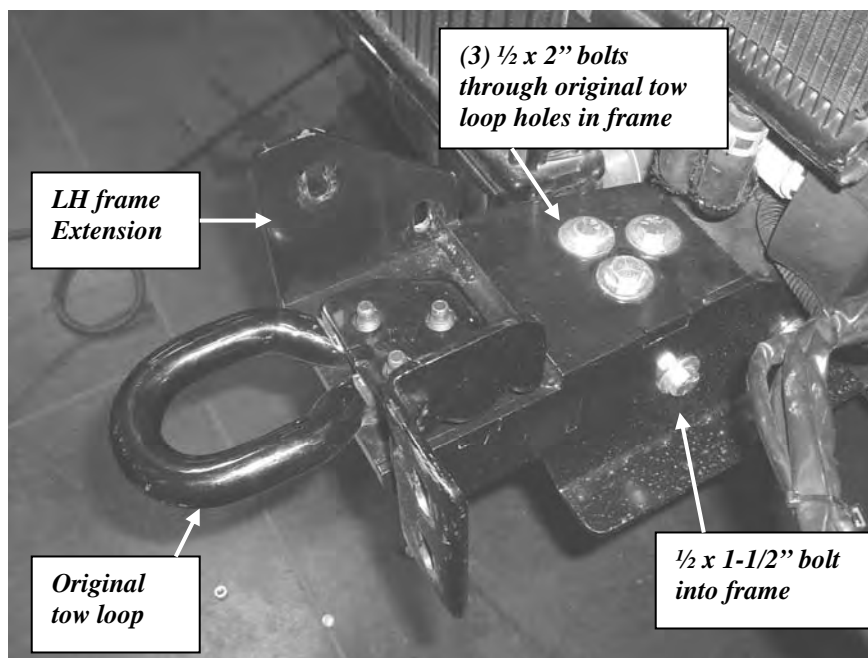

Figure 16 LH Frame Extension bolted in place
25. Align the Winch Carrier with the edges of the Frame Extensions and tighten the 7/16" hardware to the recommended torque, starting with the side bolts and ending with the (4) Carrier lip bolts. If installing the Skirt, Do not tighten the (2) Skirt Bracket bolts until after the bumper is installed.
26. Center the Winch Carrier and tighten the (6) 1/2" bolts installed in the tow loop holes, to the recommended torque.
27. Tighten the (2) 1/2" frame bolts to recommended torque.
28. Tighten the (4) 5/8" frame bolts to the recommended torque. Cut the wire handles where they exit the frame.
29. Position the original tow loop/bumper brackets on top of the Frame Extensions. Make sure they are on the correct sides. Install the (6) original tow loop bolts through the bottom of the Frame Extensions and into the tow loops. Do not tighten yet. **See Figure 16.**
30. Install the winch now. If you are installing a Warn M15000, replace the Control Pack Bracket with the one provided in this kit. Remove the (2) 1/4" nuts and remove the bracket. Install the new Control Pack Bracket to the same studs using the same hardware.